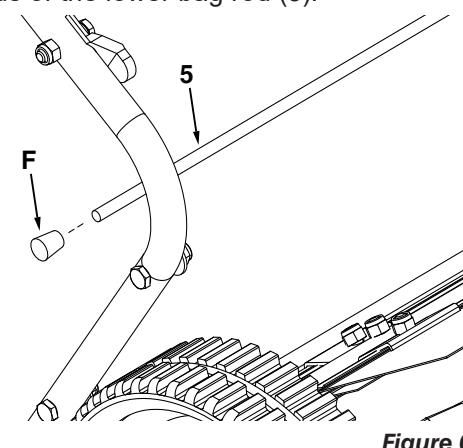

Figure 6
STEP 6: (SEE FIGURE 6)
- Assemble the two plastic rod caps (F) to the rod ends of the lower bag rod (5).